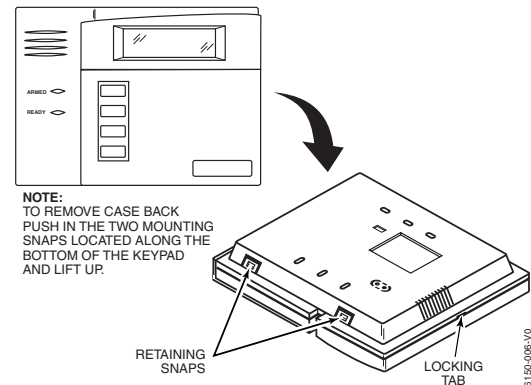

Figure 1. Removing the Case Back
1. Push the two case release snaps at the bottom of the Keypad with the blade of a medium screwdriver, then pull that side of the case back away. Insert the screwdriver in the side of the Keypad (between the front and back case) and gently twist to release the side locking tab. Repeat for the other side. Refer to Figure 1 for location of the case back release snaps and locking tabs.